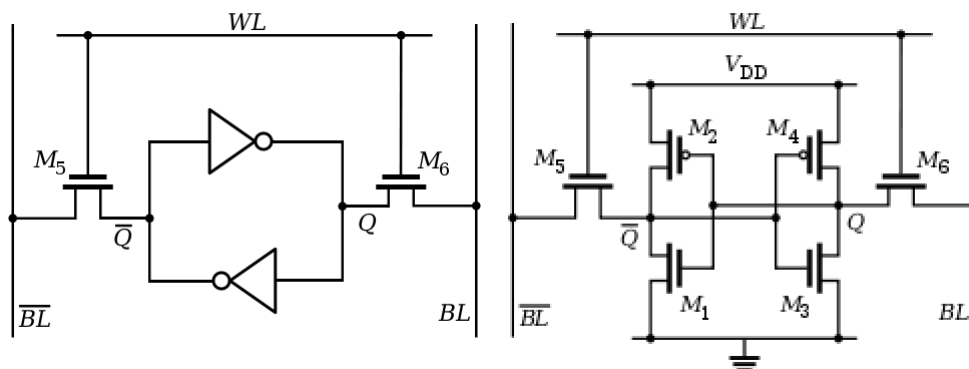

Fig1. Simplified illustration of a SRAM cell
- b) Fig1 below is a simplified illustration of a SRAM cell. Data is stored in M1, M2, M3, M4 gated. Those gates formed a lock that the states would not be changed if electrical is applied and Write Enable is disabled. Pass registers (M5, M6) are used to control the read or write enable of this cell.